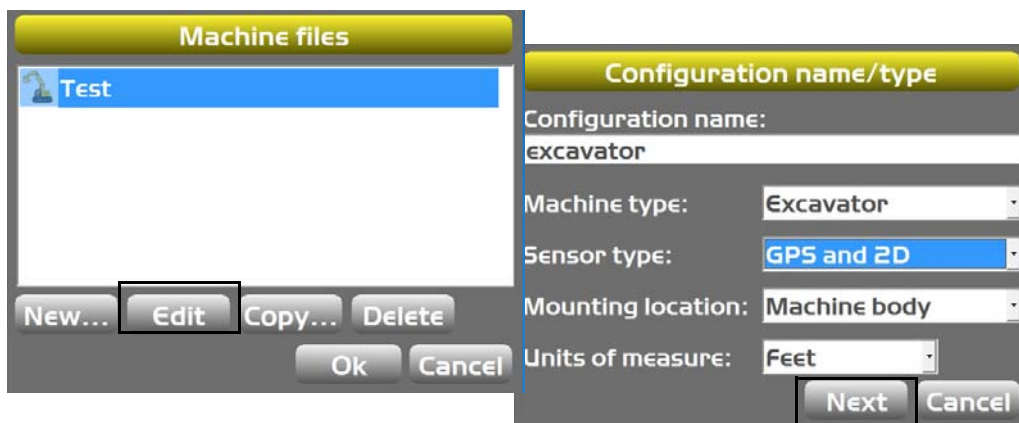

Figure 47: Navigate to Excavator Buckets Screen
1. In 3D-MC, tap **Topcon Menu Button** ▶ **Control** ▶ **Machine setup**. Select the applicable machine file for the job and tap **Edit**. The **Configuration name/type** screen appears (Figure 47).